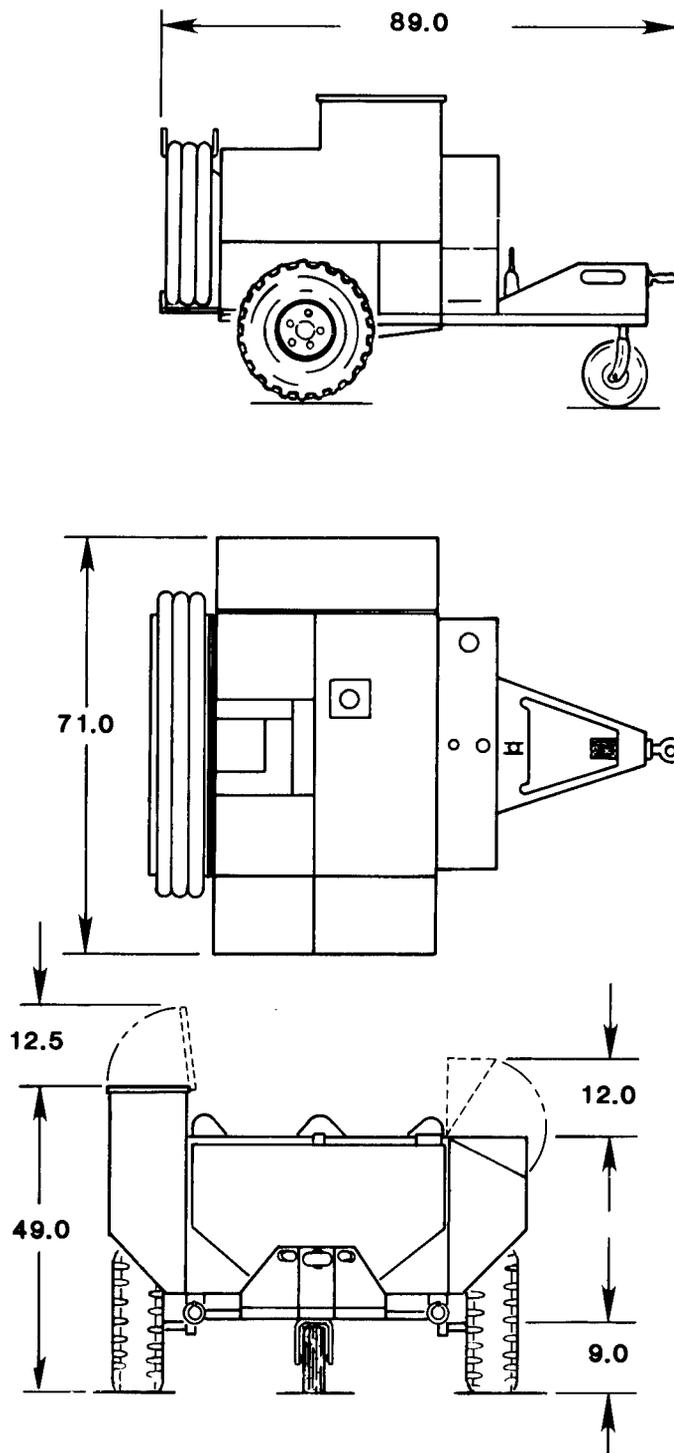
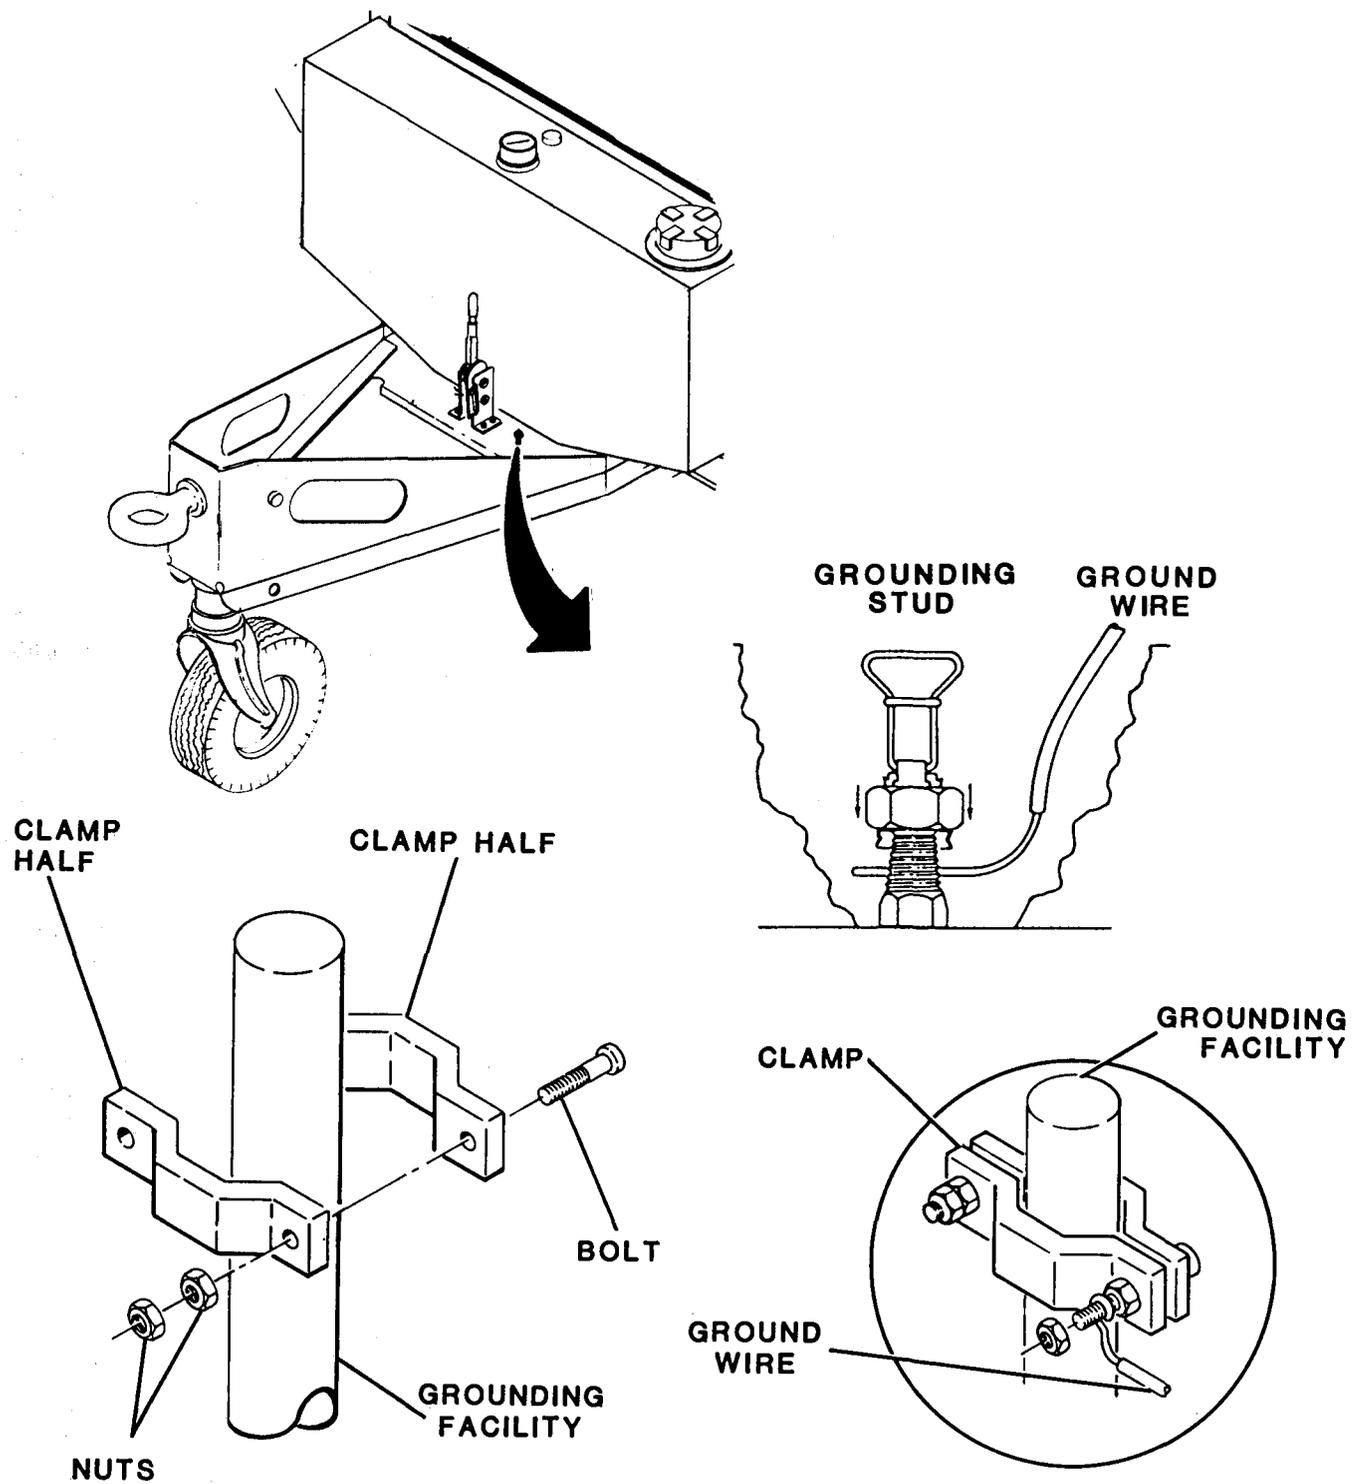

Figure 4-2. Installation Clearances
Figure 4-3. Grounding the Generator Set.
a. General. Installation procedures include positioning the generator set on a level surface in a well-ventilated area and setting the handbrake. Select a site that allows for the clearances shown in figure 4-2, plus working room. Additionally, the generator set should be within easy access of an approved grounding facility. Approved grounding facilities can be attained using either of the procedures described in the following paragraph. See figure 4-3.
(2) Attach ground rod (figure 4-3) to ground cable by stripping 1 inch (25 mm) of insulation, if any, from ground cable. Insert stripped end of cable in clamp enough to insure a good electrical bond.
(3) Place ground rod with attached ground cable along water pipe. Attach ground rod securely to water pipe to ensure a good electrical bond.
(4) Cover water pipe with dirt.
(5) Position generator set within easy access of grounding facility and set handbrake.
(6) Using at least No. 6 AWG (American Wire Gauge) copper wire, cut length of wire to fit between grounding stud on generator set and grounding facility.
(7) Strip 1-1/2 inches (38 mm) insulation, if any, from one end of wire. Attach to grounding stud.
(8) Strip insulation from other end of wire. Crimp wire on mounting lug. Attach mounting lug to hardstand ground stud. Tighten connection to ensure a good electrical bond.